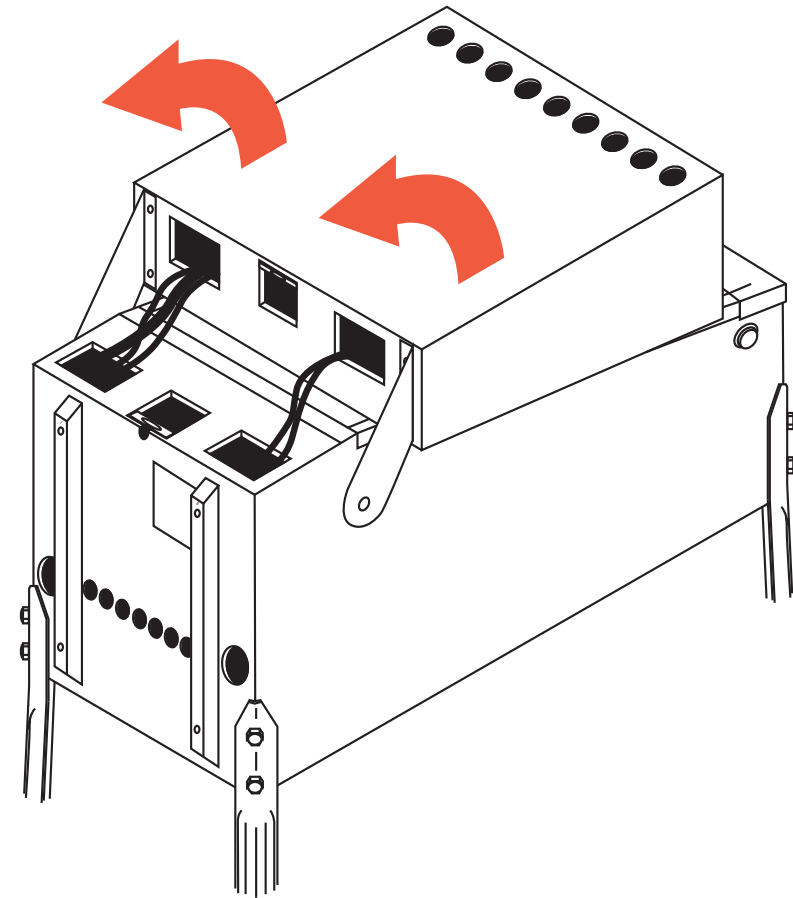

Figure 7. Raising the backbox to its upright position.
7) Using wire cutters, cut the nylon strap holding the backbox down (protect your eyes!). Remove the remainder of the packing material from the game and raise the backbox to its upright position (see figure 7). Ensure that the cables and wires in the neck of the game do not get pinched at any time during this process.